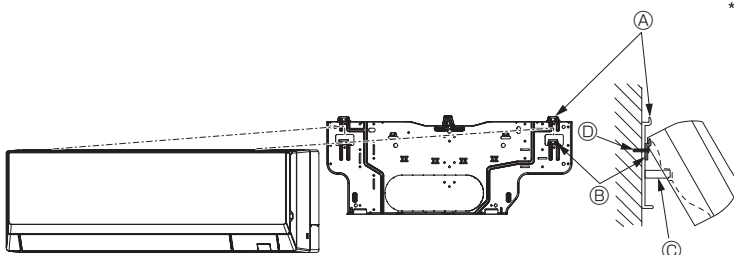

Fig. 3-12
• When the indoor unit cannot be hung and lifted up with the regular hook (the dimension of 2.1. ⓐ (the clearance between the ceiling and the unit) is 75 mm, 2-15/16 in. or less), hang the unit on the lower hook for left piping. (Fig. 3-12)
#### (Fig. 3-12)